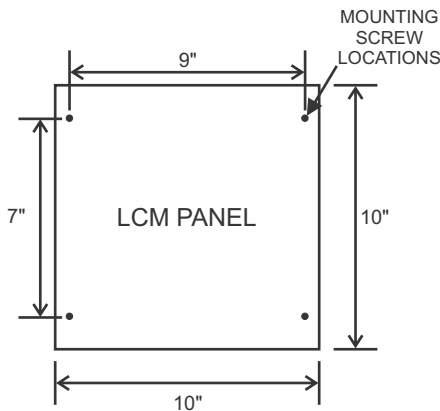

Fig 2
1. See Fig 2. Install anchors on 9"x 7" centers and mount the panel in a convenient location near the Distribution Panel (DP) to be monitored.
3. Route up to (9) 120 or 277VAC LINE connections from the (HOT) breaker side of branch circuits to be monitored from the DP to the LCM panel using wire size appropriate for the circuit capacity.